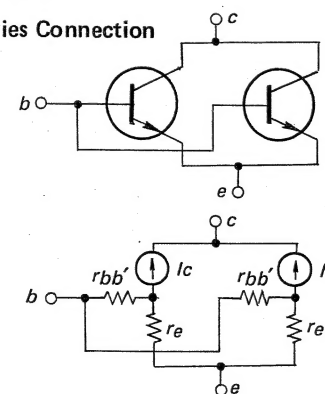

Fig. 10
In Fig. 10, two transistors are shown as connected in series. The  $r_{bb'} + r_e$  factor in the equivalent circuit will become  $1/2$ , so  $(r_{bb'} + \frac{r_e}{2})$  will also become  $1/2$ . Consequently, according to formula (2), noise will become  $1/\sqrt{2}$ , that is, a reduction of 3 dB. If  $n$  transistors are connected in series, noise will be reduced by  $1/\sqrt{n}$ .